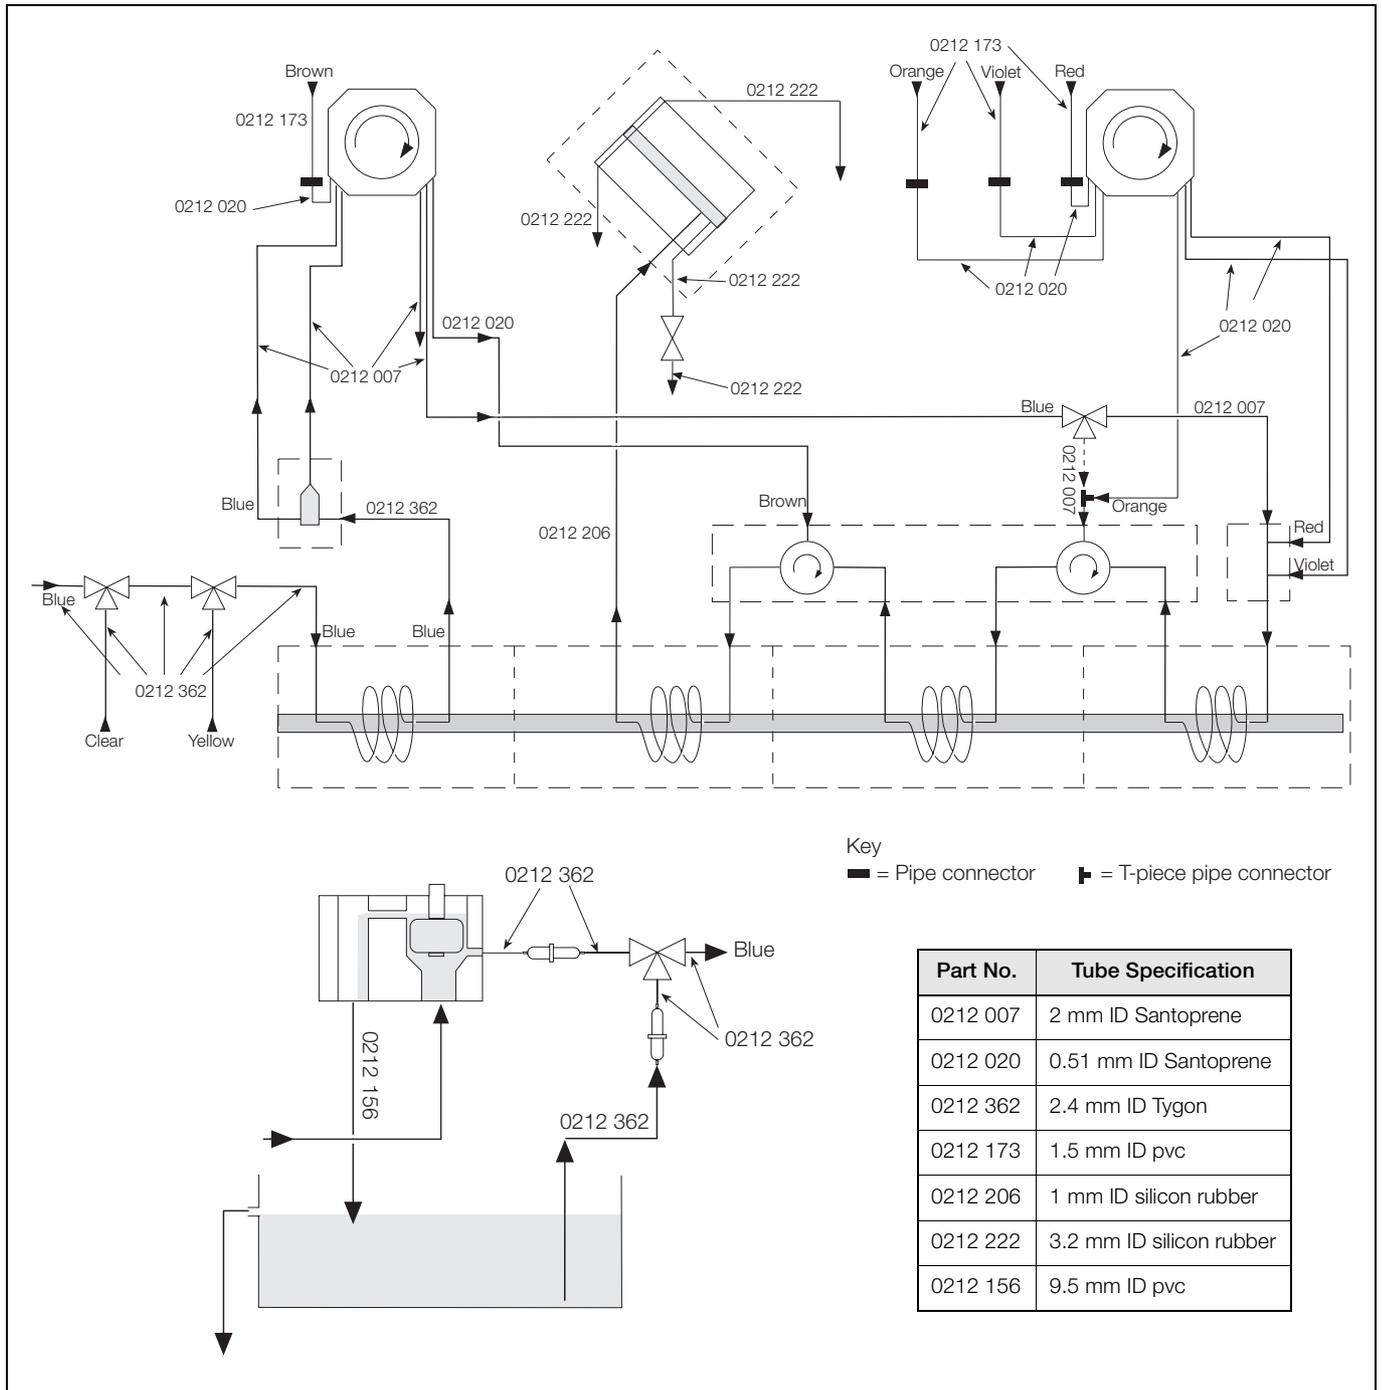

Fig. 8.2 Replacement of Plumbing Tubing
8.2.7 Replacement of Plumbing Tubing – Fig. 8.2